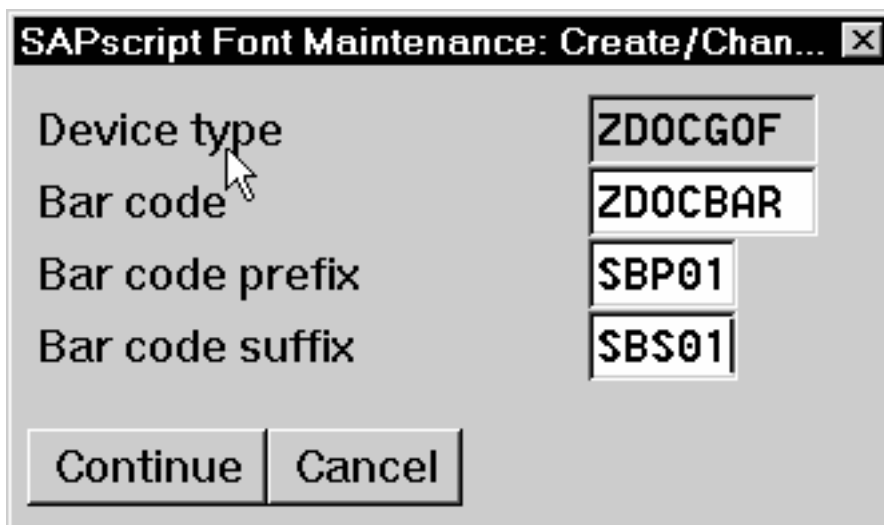

Figure 71. SAPScript Font Maintenance (Create/Change) window
7. From the Create/Change... window displayed below, select the intended bar code (ZDOCGOF) and fill in the remaining information as shown in Figure 71: